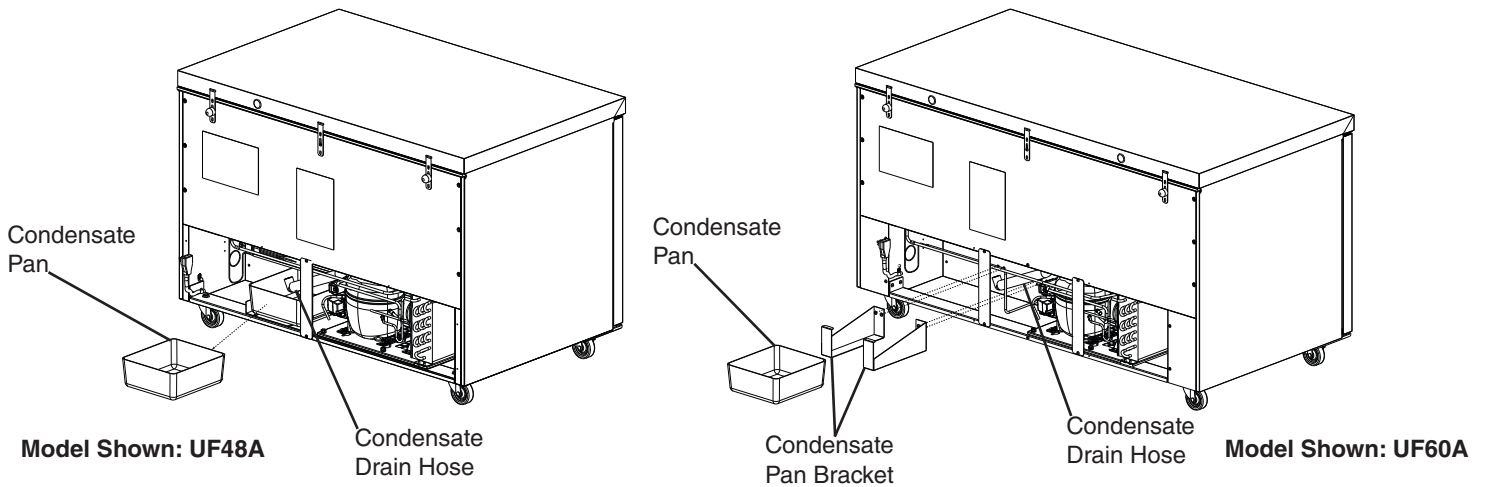

Fig. 7
5) Next, remove the current condensate pan (if applicable) and condensate pan brackets (if applicable), and discard. See Fig. 7.